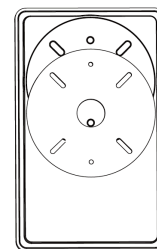

Fig. 3
4. Peel off the yellow sticker and paste the foam gasket on the round area of the bottom plate. (Fig. 3)